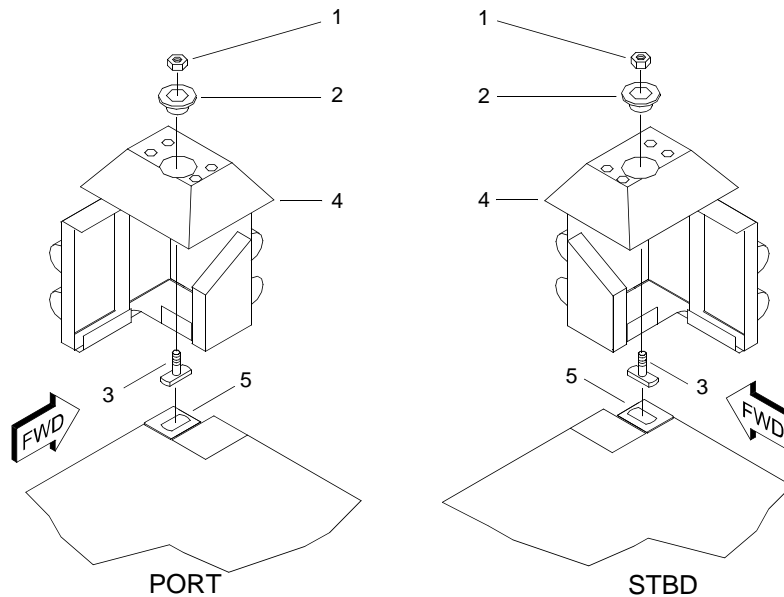

Figure 5. Removing Corner Fenders
1. Using socket, adapter and wrench, remove nut (figure 5, item 1) and washer (figure 5, item 2) from tee bolt (figure 5, item 3).
2. Remove corner fender (figure 5, item 4) from tee bolt (figure 5, item 3).
3. Turn tee bolt (figure 5, item 3) until aligned with slot and remove from ISO corner fitting (figure 5, item 5).